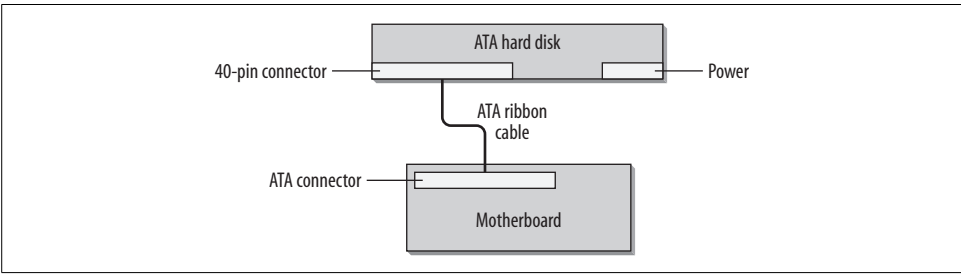

Figure 2-20. The ATA interface separated the drive and the controller.
Integrated disk electronics, or *IDE*, has had many incarnations and many names since its introduction in 1986. Originally, hard drives were small enough, in both size and capacity, to fit directly onto disk controllers. As storage requirements grew, manufacturers realized that housing drives on controller cards was an inefficient use of space. Soon drives and controllers became separate entities, connected by ribbon cable. This meant that drives could grow in size without interfering with the expandability of the motherboard. It was common for these integrated controller cards to make adjacent slots on the motherboard inaccessible. Manufacturers eventually decided that portions of the controller could be housed directly on the drives and that creating a standard drive interface would allow for both expandability and portability. Originally called IDE in several proprietary implementations, a standardized version called the *AT Attachment*, or *ATA*, was eventually ratified (although many people still use the terms IDE and ATA interchangeably). This new disk interface was called the AT Attachment because it was introduced with the ISA (AT) motherboard. It quickly grew in popularity, and today the ATA interface is the most widely deployed consumer disk interface. Figure 2-20 shows the ATA interface.